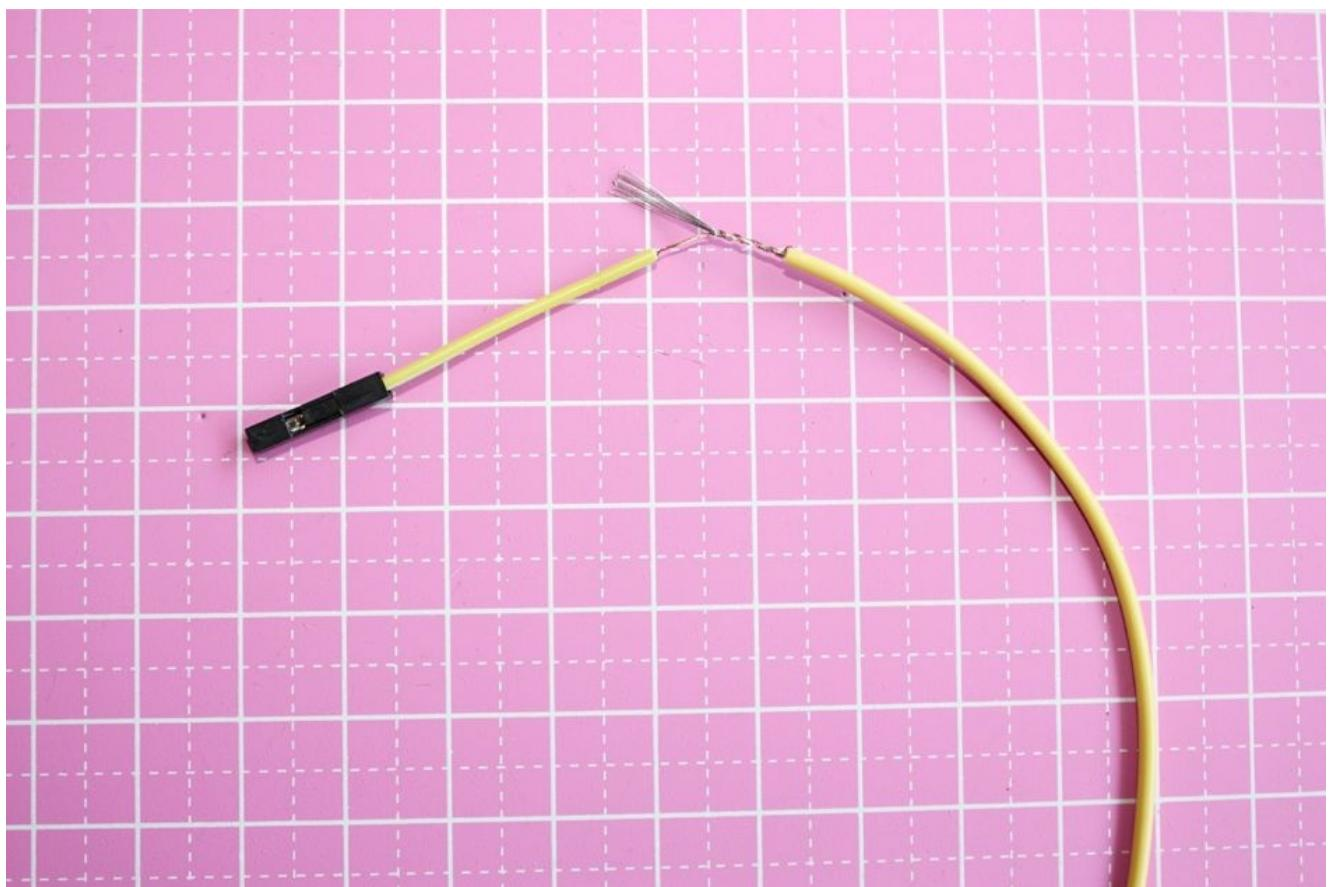

Figure 8-5. Joining wires
3. Join a half jumper wire to the matching colored length of hookup wire. An inline splice is an effective way of joining the wires for this project: join the wires by crossing the two stripped ends together at their centers, and then wrapping each end around the other, one at a time, as in Figure 8-5.